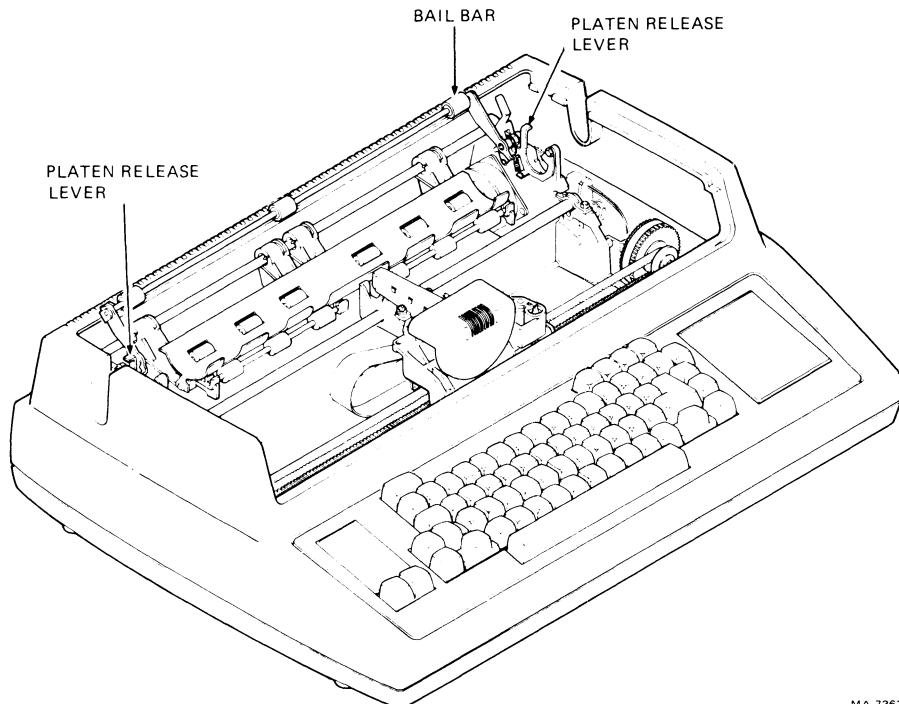

Figure 7-3 Platen Removal
8. Lift the bail bar to gain access to the platen. Remove the platen by pressing the two platen release levers at the same time (Figure 7-3). Lift the platen straight up. Lower the bail bar to its original position.
5. Lift the bail bar to gain access to the platen. Remove the platen by pressing the two platen release levers at the same time (Figure 7-3). Lift the platen straight up. Lower the bail bar to its original position.